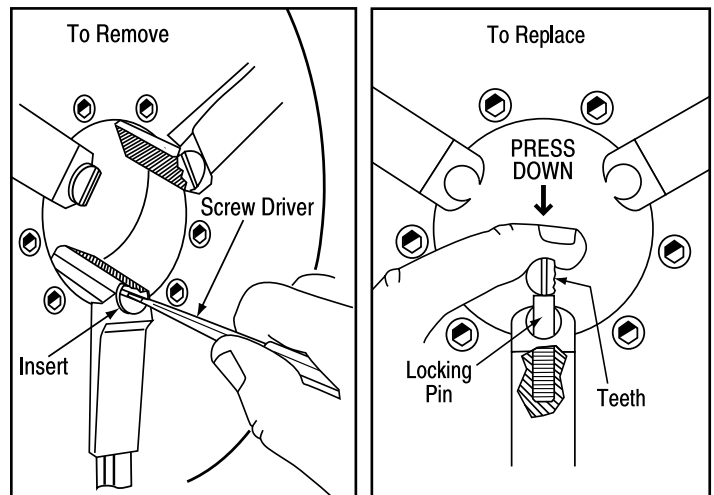

Figure 5
1. Place screw driver in insert slot and turn 90 degrees in either direction (Figure 5).